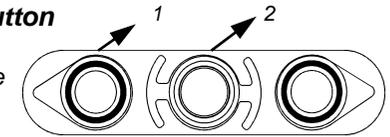

Fig. 5.3.1
5.3 - Check the efficiency of the stop button (fig. 5.3.1)
5.4 - Starting the machine (fig. 5.3.1)
To start the machine, just press the start button "1" Fig. 5.3.1, after having properly connected the plug to the electric mains supply and the machine is activated.
5.5 - Stopping the machine (fig. 5.3.1)
To stop the machine, press the stop button, "2" Fig 5.3.1 and the machine stops